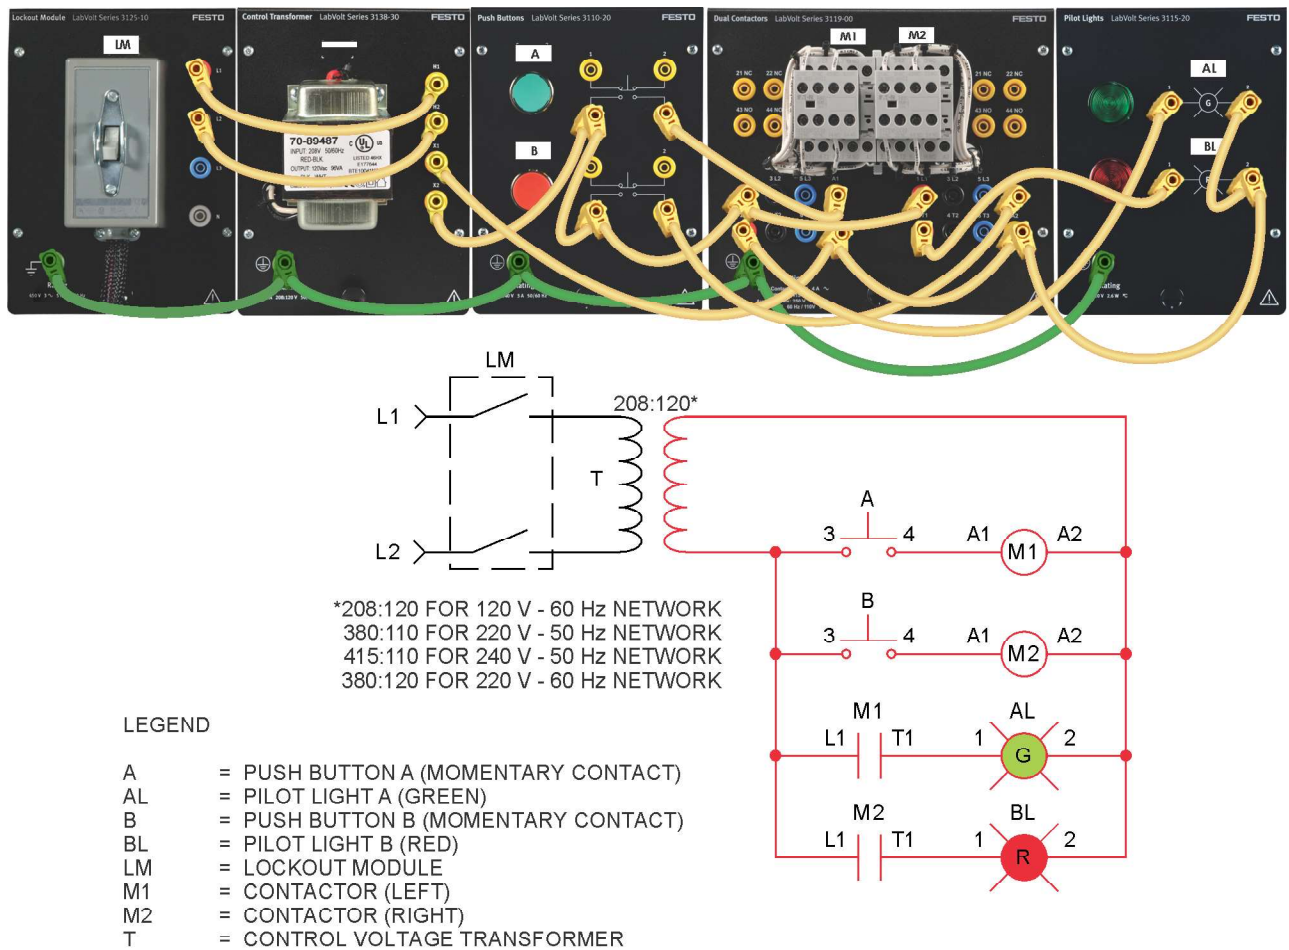

Figure 1-19. Mechanical interlock testing circuit.
14. Connect the circuit shown in Figure 1-19.